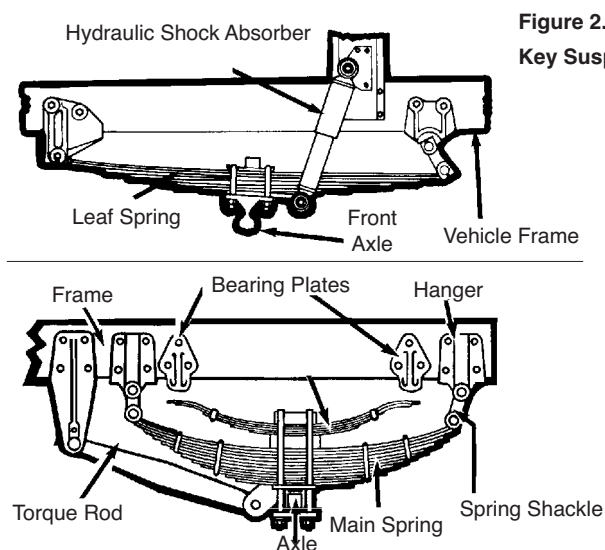

Figure 2.2
- Spring hangers that allow movement of the axle from proper position. (See Figure 2.2 on next page.)